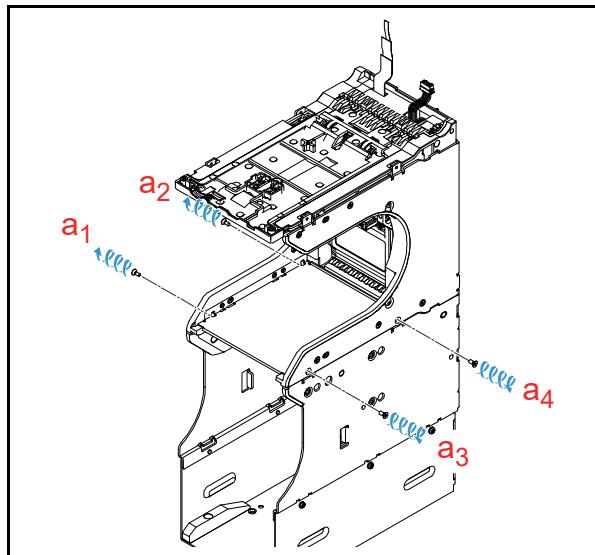

**Figure 4-8 RT Frame Unit Removal 4**
8. Remove the RT Frame Unit (Figure 4-8 a) as illustrated.